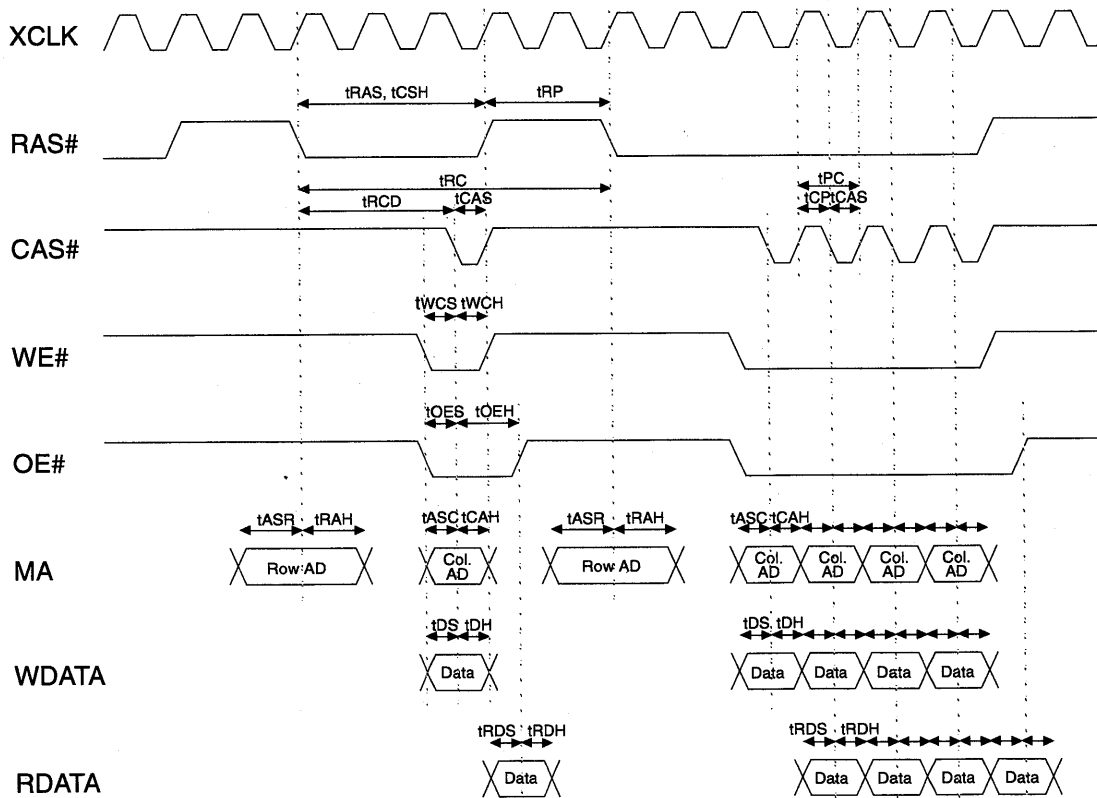

Figure 7-8. Hyperpage EDO DRAM Cycle Timing
- Hyperpage EDO DRAM Cycle Timing, see *Figure 7-8*.